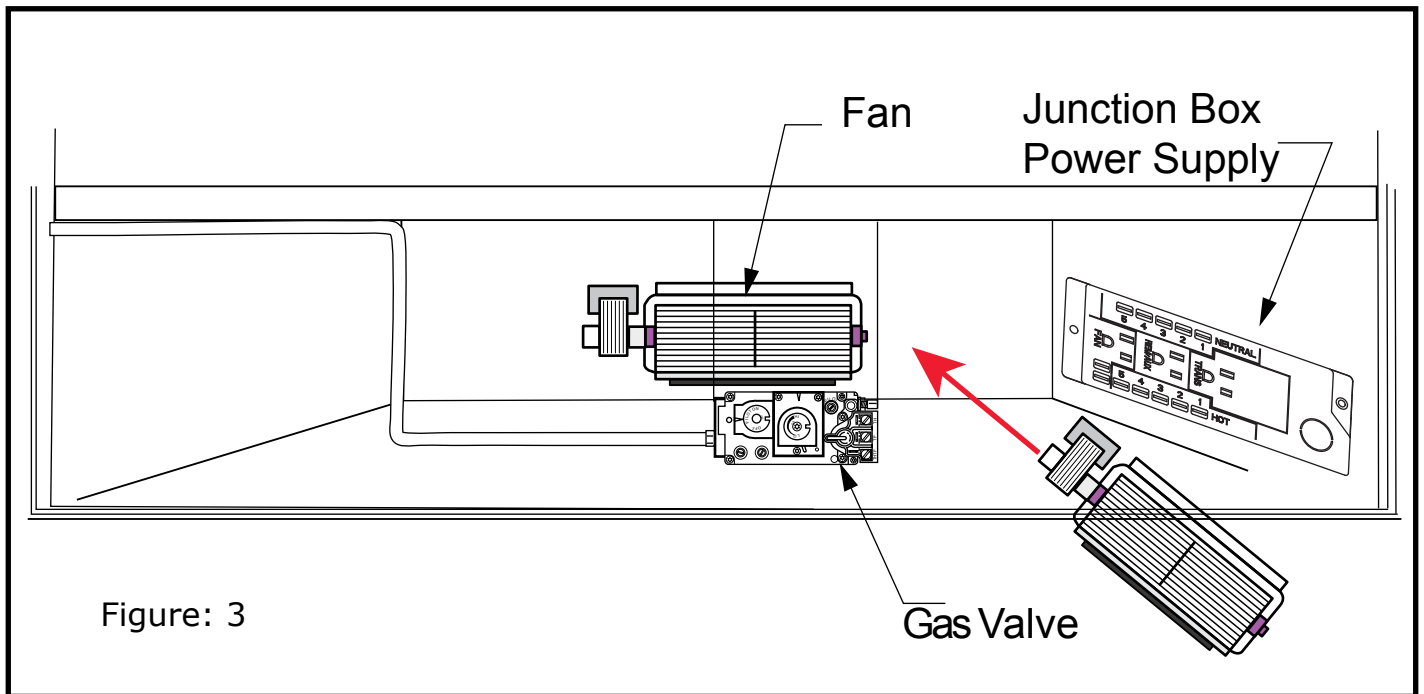

Figure: 3
Step 3: Under Firebox, wipe off the area where the Fan will be mounted, this will allow the velcro to take hold. (Figures: 3&4) Visualize a pathway for the blower to reach the back. Remove the clear backing of the velcro strips. (Figure: 3)
Hold fan assembly so the fan blades face up and fan motor is furthest away from fireplace. (Figure: 3)